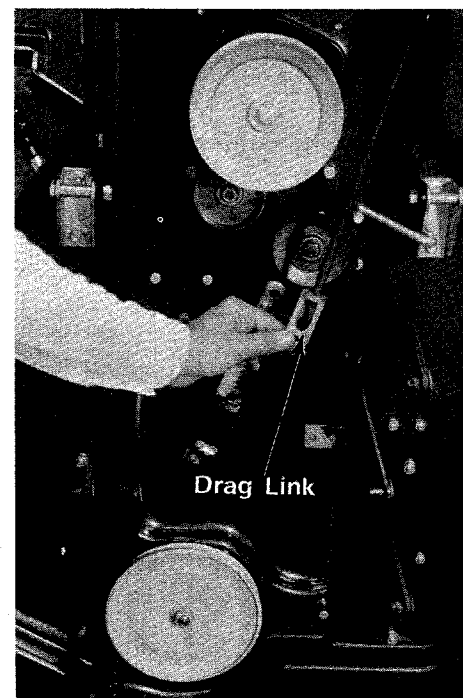

Figure 25
- 8 Remove the drag link from the steering rack. (See figure 25.)